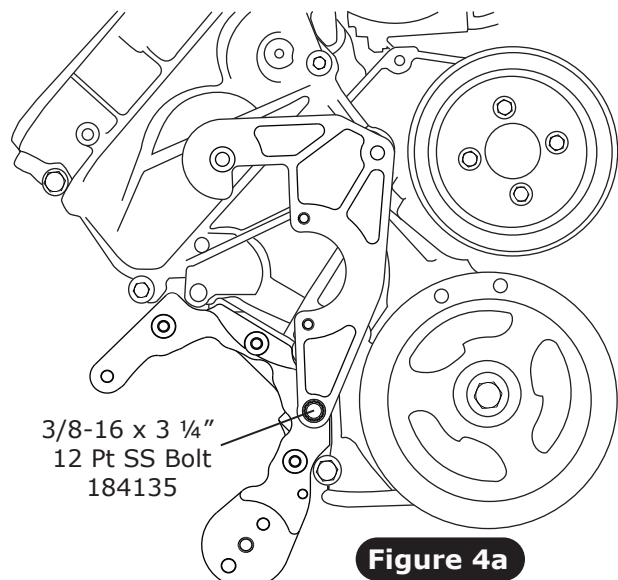

Figure 4a
2. Mount upper bracket to lower bracket assembly using 3/8-16 x 3 1/4" 12 pt SS bolt (See Figure 4a, below).